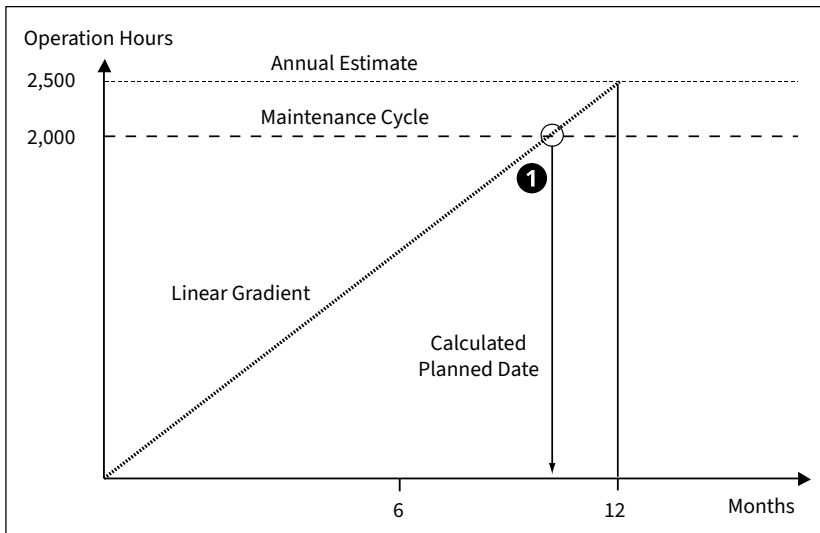

Figure 5.48: Initial Scheduling
The geometric solution (see Figure 5.48) is as follows: If the equipment were utilized exactly as estimated in the annual estimate, it would result in the counter being linear, and 2,500 OPH would be reached after 1 year. The intersection between the linear gradient and the maintenance cycle would now determine the maintenance date ①.